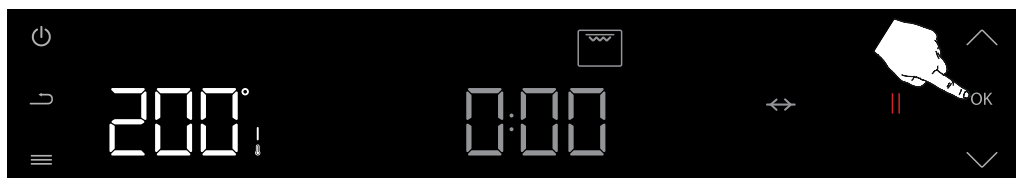

Figure 63
Press the confirm button (OK) once to confirm the cooking function selection. (see figure 63)